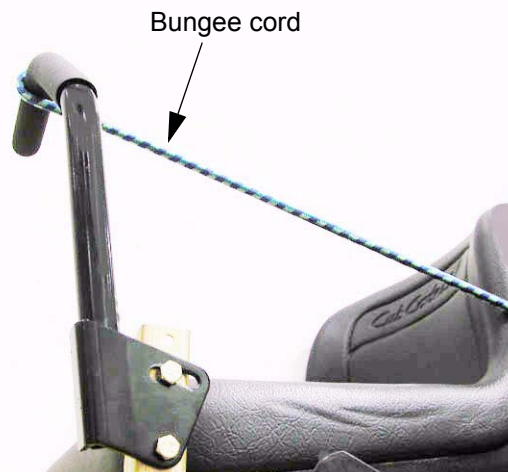

Figure 9.2
- 9.2. Use a bungee cord or similar means to apply light rearward force to the lap bar on the side that is not being adjusted. This will actuate the switch not being adjusted, opening the contacts. With one switch actuated, the switch being adjusted will control the PTO clutch. See Figure 9.2.